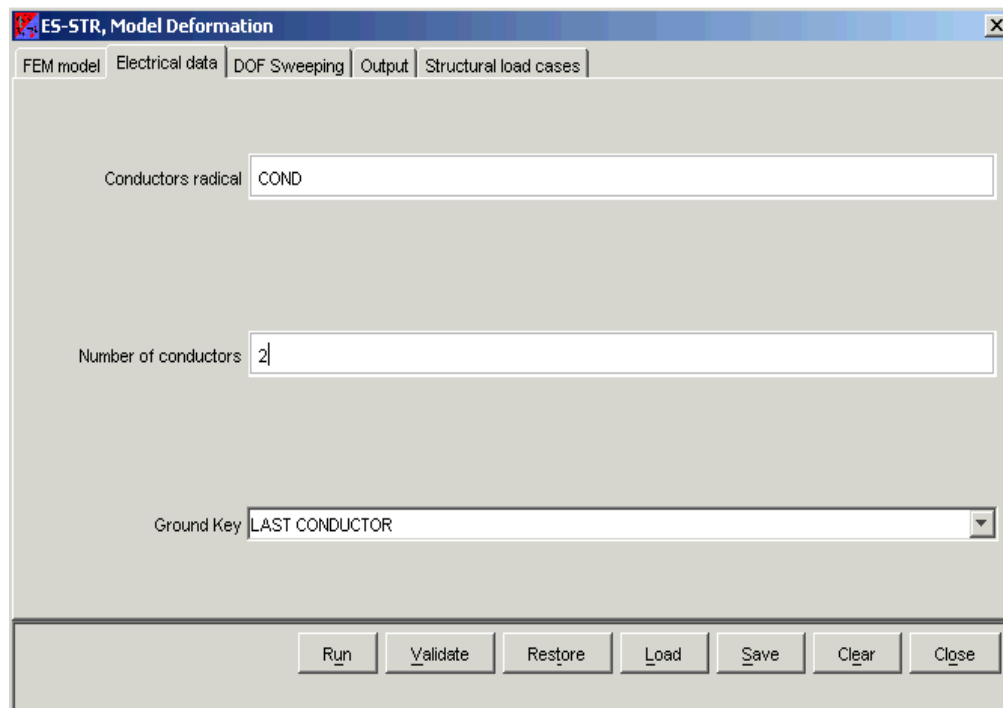

Figure 114: **Electrical data** tab
- ☑ In the **Electrical Data** tab, set the number of conductor and the used radical, as shown in (Figure 114).